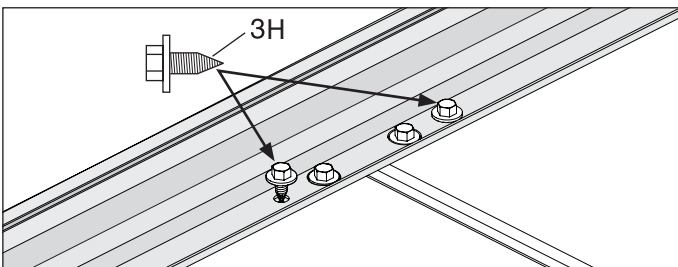

Figure 12
- b. **(Dual installation only)** Install outer screws on common mounting bracket, align top trim and attach with 3/8" socket. (See Figure 12).